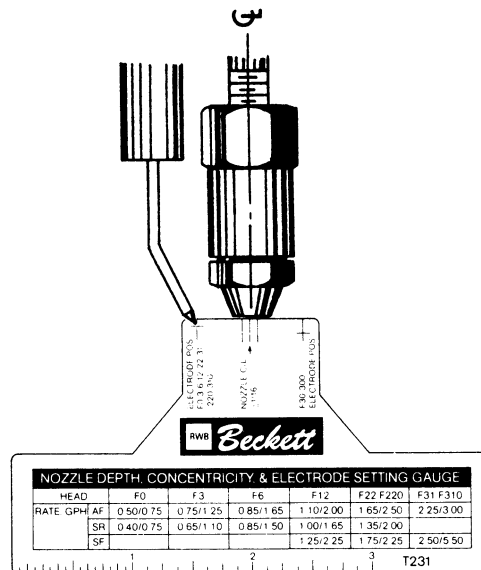

Figure 7-17 Using the Beckett T-gauge to set electrodes. Courtesy: R. W. Beckett Corp.
7. Lock the electrodes back into their bracket. Set the tips as explained above or as required by the burner manufacturer (see Figure 7-17). Some electrode brackets have